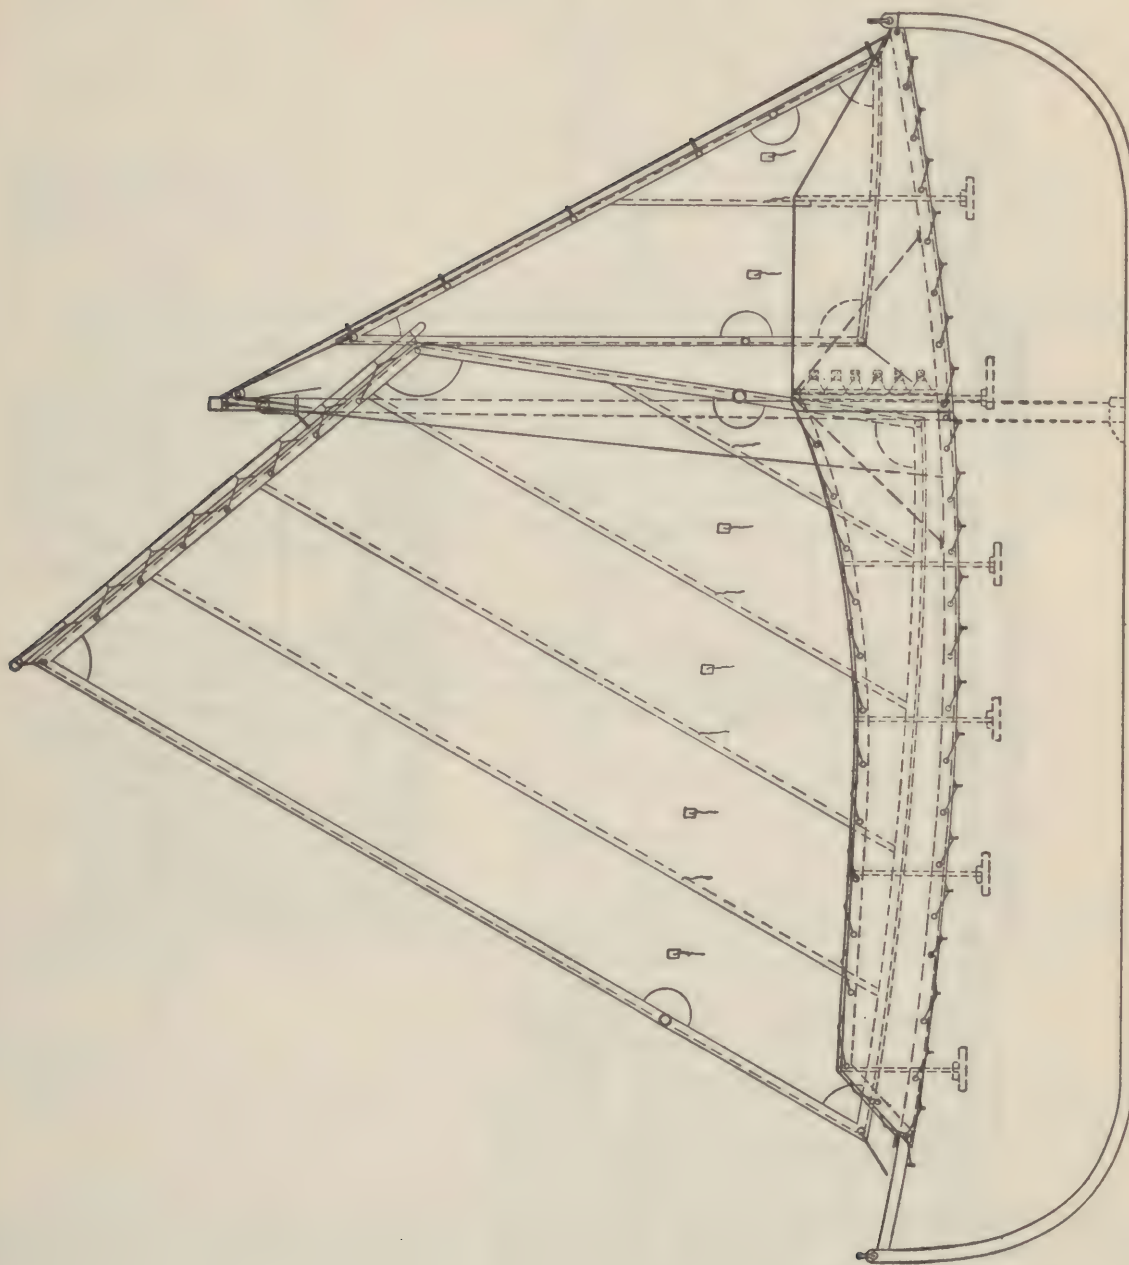

FIGURE 7.—Rig of sail and jib.
**Rig, area, and quality of sails.**—Diagrams showing the details and recommended dimensions and areas of sails, together with the recommended quality of sail canvas for the various sizes of lifeboats, is shown in figures 7 and 7A. Masthead fittings of sails should be of wrought iron or cast or sheet steel. Cast iron is not suitable for this purpose.